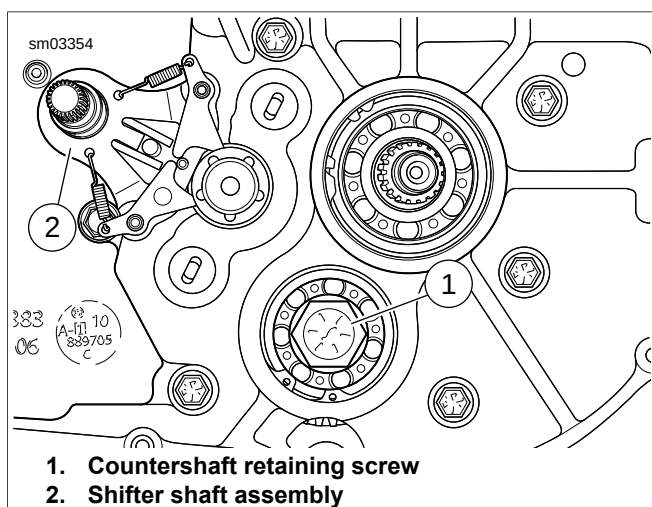

Figure 5-45. Countershaft Retaining Screw
7. See Figure 5-45. Place transmission in 1st gear. Remove countershaft retaining screw (1).